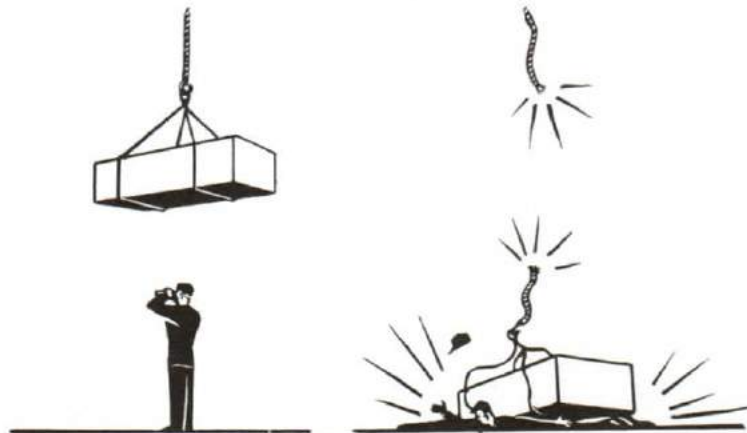

Figure 7-11
- n. DO NOT stand underneath a hoist. See Figure 7-11.
- n. NE JAMAIS se placer sous une élinguée (voir la figure 7-11).
- (1) DO get permission from the OOW (normally through your supervisor) before working up the mast or in the vicinity of the funnel top. There is a safety procedure in your ship called "Man Aloft" safety which is designed to safeguard anyone working at heights from danger from electronic transmissions and rotating antennae. Unless you tell someone you will be working aloft, these measures cannot be enforced.
- (2) DO ensure that there is no danger from ships coming alongside, or from movement of your own ship before you work overside. Again, tell someone in authority before you start work.
- (3) DO NOT go overside between two ships or between a ship and a jetty, unless adequate catamarans or fenders are provided.
- (4) DO ensure that there is no danger from hot or high pressure discharges from the ship's side, or from ships alongside. Whenever men are working overside, they are to have lifelines attached to them which are tended by a man inboard.